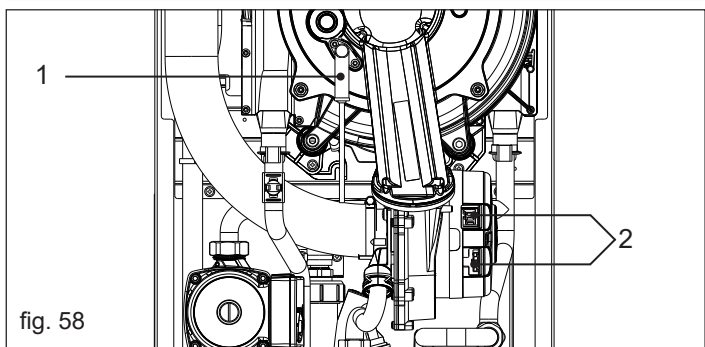

fig. 58
- Disconnect the ignition electrode and the ignitor grounding wire (1-fig. 58)